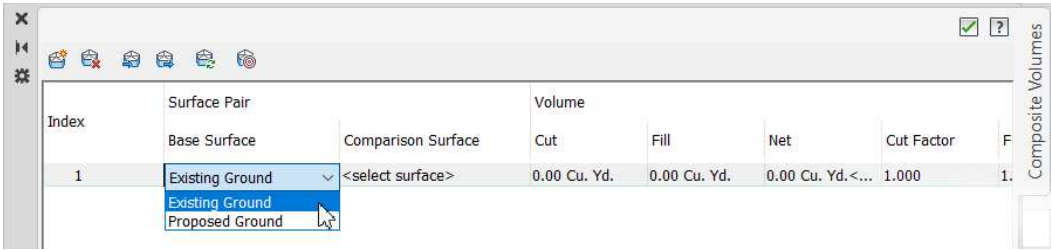

Figure 4-19 Selecting the **Existing Ground** option from the drop-down list
3. Double-click on the **<select surface>** cell in the **Base Surface** column; a drop-down list is displayed. Select the **Existing Ground** option from this drop-down list, as shown in Figure 4-19.